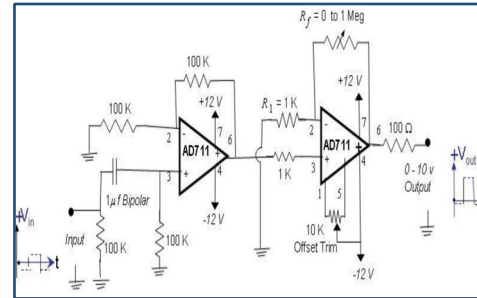

Figure 1: Diagram of AC Amplifier in KiCAD
- Design the circuit in KiCAD (Figure 1)